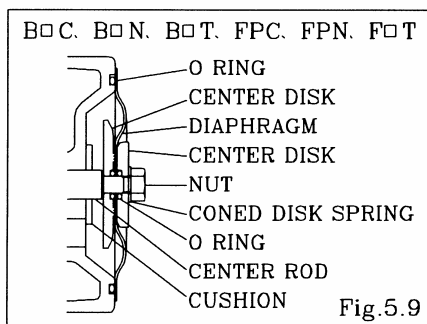

Fig.5.9
- Install the O ring (cf. Fig.5.9).